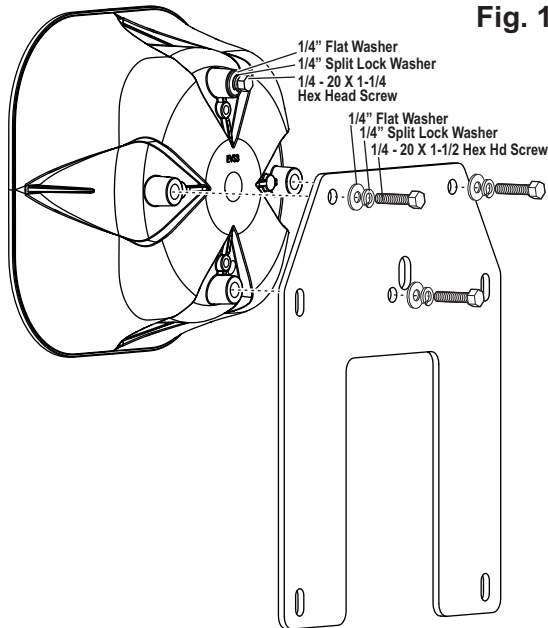

Fig. 1
3. Install the speaker to the main bracket using supplied hardware (Fig. 1).